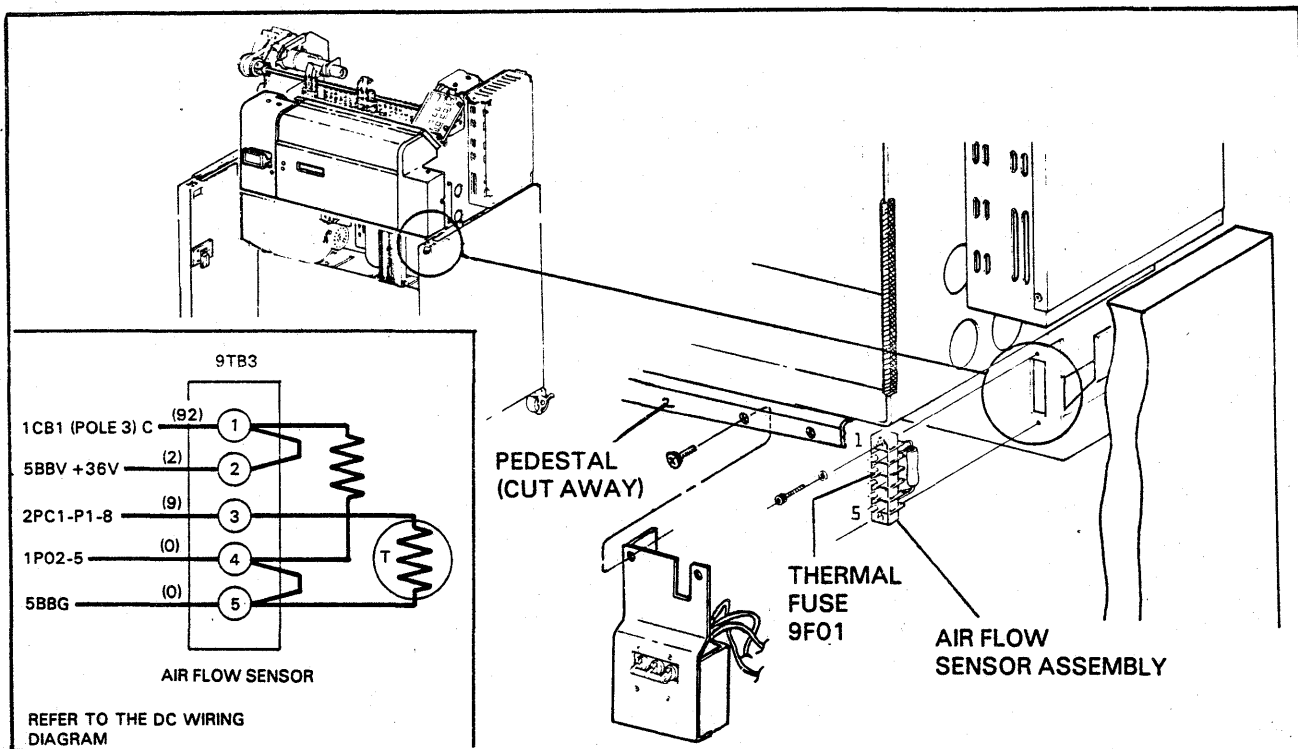

FIGURE 6-13. BLOWER AIR FLOW SENSOR REPLACEMENT
1. Remove the front cabinet cover over the circuit breaker. Remove two screws at top of the circuit breaker mounting bracket and lower the circuit breaker assembly to the extent allowed by the length of the wires attached (see Figure 6-13).
4. Remove the air flow sensor assembly by removing two socket-head screws securing the terminal block to panel. Observe the wiring arrangement of the 8-watt resistor and thermal cutoff (within the resistor) for correct orientation of new part (see Figure 6-13).